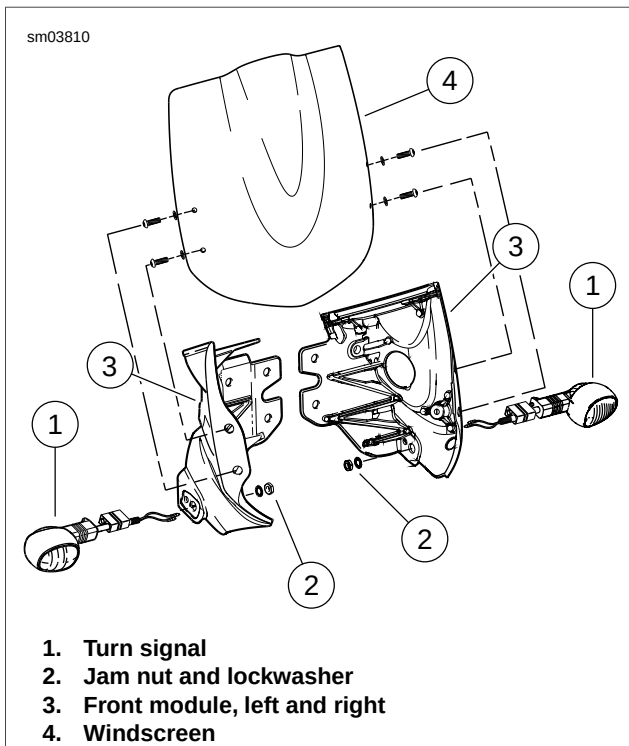

Figure 7-47. Front Turn Signals: Lightning
3. See Figure 7-47. Remove jam nut and lockwasher (2) from inside of front module (3).
4. Pull bullet connectors and wiring through hole in front module (3) and remove turn signal (1).
1. See Figure 7-47. Insert bullet connectors and wiring through hole in front module.